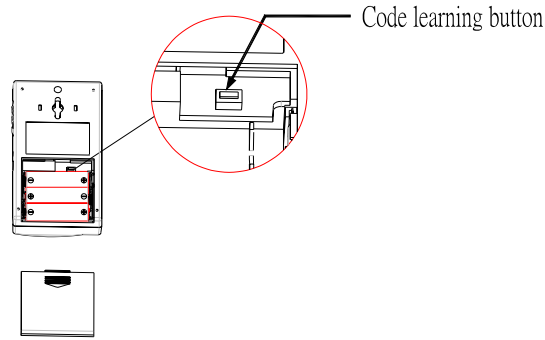

FIGURE 2b
- Step 3: Using a ball-point pen, press and hold the code learning button for more than 3 seconds. (FIGURE 2b & 2c)
- Step 2: Using a ball-point pen, press the code learning button for more than 3 seconds. (FIGURE 2b & 2c)